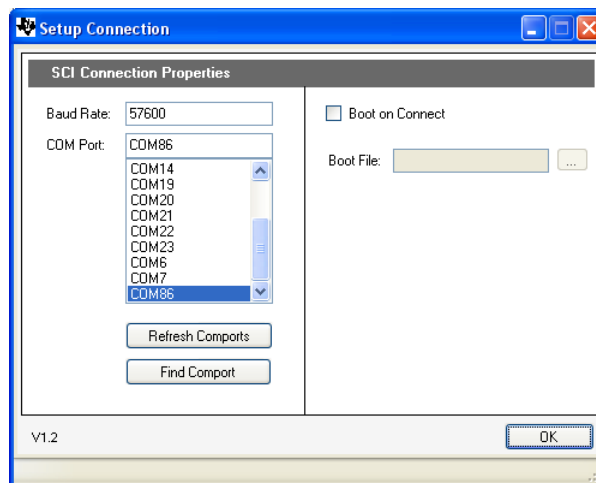

Figure 8. The GUI Setup Connection Window
2. Click *Setup Connection* and make sure the *Baud Rate* is set to 57600 and that the *Boot on Connect* box is unchecked, as shown in Figure 8.